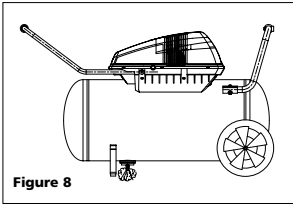

Figure 8
3. Assemble the tube to the tank as shown in figure 8. Fasten the tube with 5/16 inch locking bolts. Tighten securely with 5/16 inch locking nuts.
2. Place unit in the horizontal position as shown in Figure 8. With compressor shut off and pressure released: Drain moisture from tank by opening drain cock underneath tank.